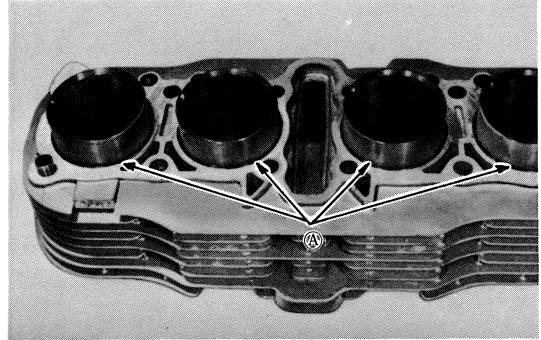

**Fig. 1-143**
2. Have the ring gaps set as shown in Fig. 1-143 on No. 2 and No. 3 pistons, and then install piston ring compressor (special tool) in the indicated manner. Some light resistance must be overcome to lower the cylinder block.